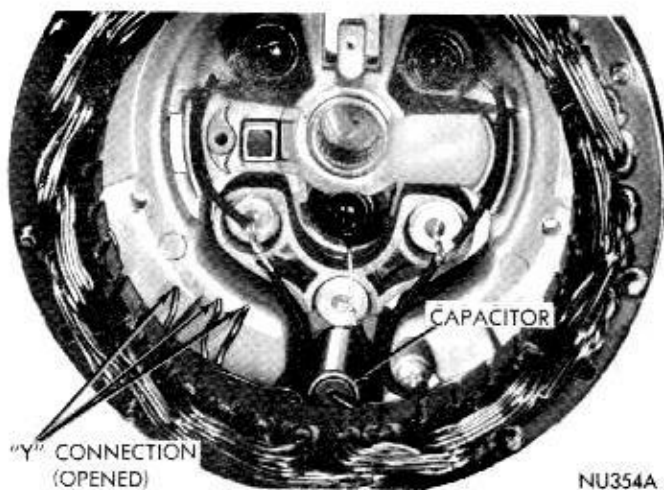

Fig. 12—Separating the Three Stator Leads
(a) Separate the three (3) stator leads at "Y" connection (Fig. 12). Cut stator connection as close to connector as possible. If they are cut too short it may be difficult to get them together again for soldering.